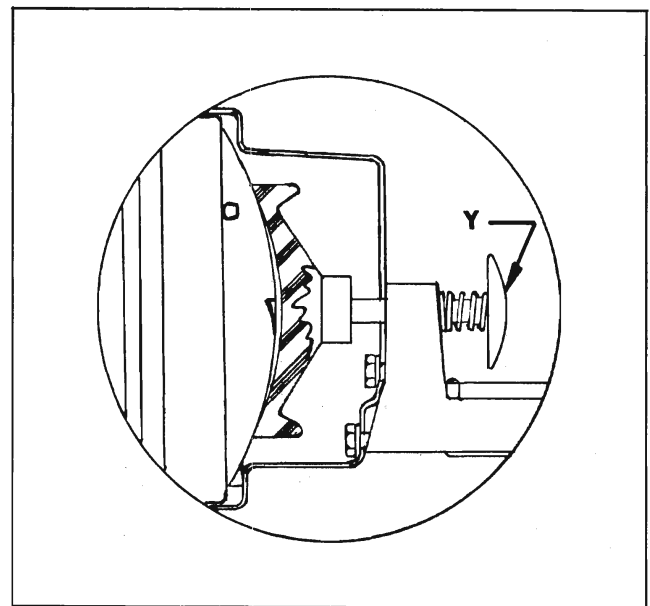

Fig. 11-123 Cross Section of Aimer Installed
4. Secure aimer to headlamp unit by pressing knob "Y" (Fig. 11-123) firmly. Rotate cross arm to approximately horizontal position.